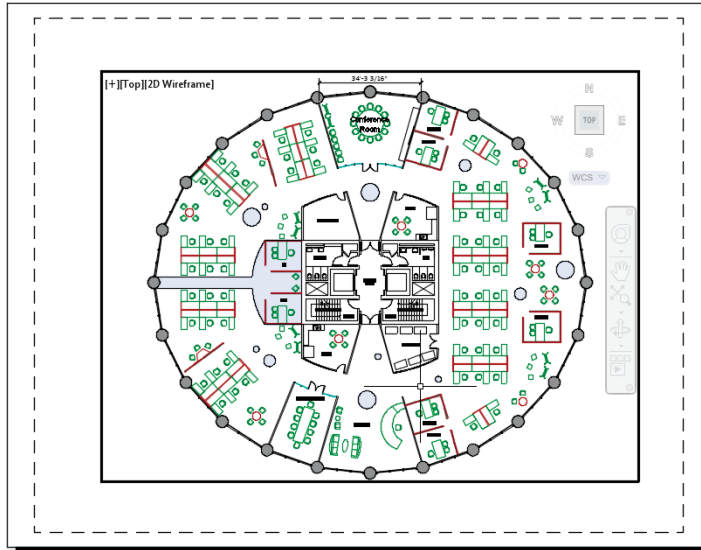

FIGURE 13.14 Model space active inside a floating viewport
2. Double-click anywhere inside the viewport on Layout1 to switch into model space. The viewport's frame highlights with a thicker representation when displaying model space (see Figure 13.14). Move the cursor inside the viewport, and observe that the crosshair cursor is available only within the viewport.